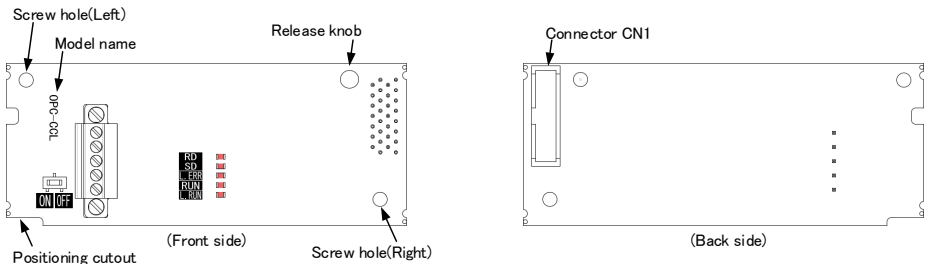

Figure 1.1 Names of Parts on CC-Link Communications Card
- (1) A communications card, two screws (M3 × 8), and the CC-Link Communications Card Instruction Manual (this manual) are contained in the package.
- (2) The communications card is not damaged during transportation--no defective parts, dents or warps.
- (3) The model name "OPC-CCL" is printed on the communications card. (See Figure 1.1.)
- (2) Insert connector CN1 on the back of the communications card (Figure 1.1) into the option connection ports. Then secure the communications card with the two screws that come with the card. (Figure 3.2)
Note Check that the positioning cutout (shown in Figure 1.1) is fitted on the tab (① in Figure 3.2) and connector CN1 is fully inserted (② in Figure 3.2). Figure 3.3 shows the communications card correctly mounted.